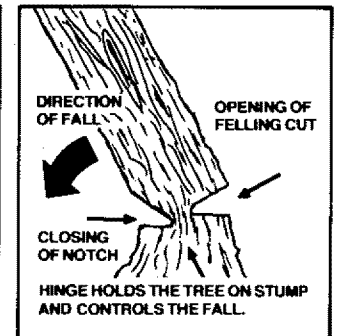

Figure 19
- c. Leave enough uncut wood between the felling cut and the notch to form a hinge. Figure 19.